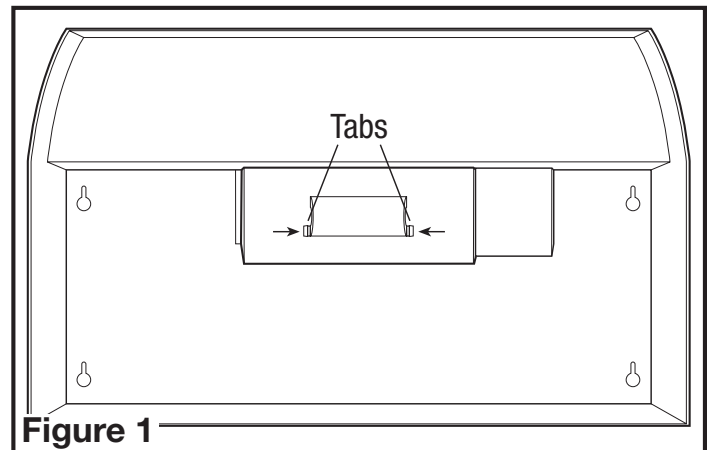

Figure 1
- Remove lamp cover by squeezing the two tabs together (**Figure 1**):